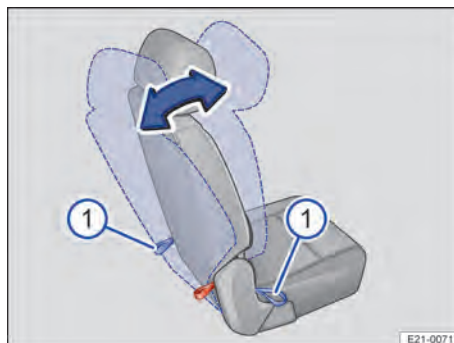

Fig. 62 Second row of seats: adjusting the angle of the backrest.
1. Apply pressure to the backrest with one hand and at the same time pull one of the corresponding loops behind the seat or at the side of the seat forwards → Fig. 62 ①.